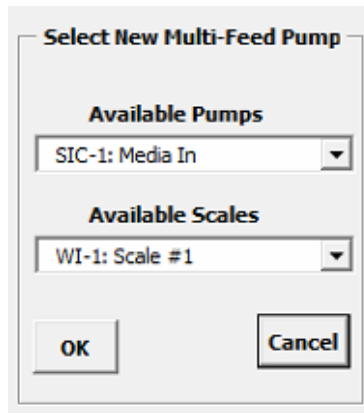

Figure 5.33. Select New Multi-Feed Pump options.
3. Additional options will appear (Figure 5.33). Select the pump to be added from the **Available Pumps** dropdown, and click **OK**.